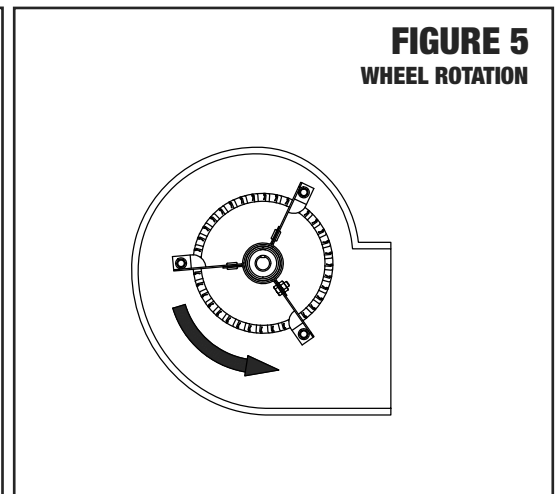

FIGURE 5
1. Complete the electrical connections, energize the unit momentarily and ensure proper wheel rotation. (see **Figure 5**).